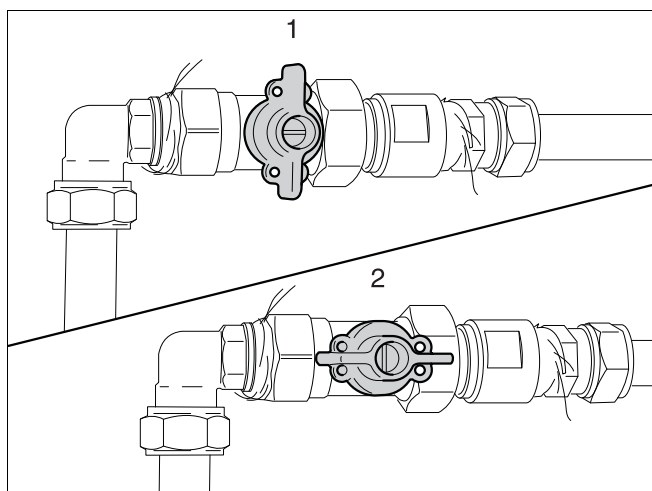

fig. 108 Gas shut-off valve closed (1), gas shut-off valve open (2)
- Open the gas shut-off valve (see fig. 108, pos. 2).